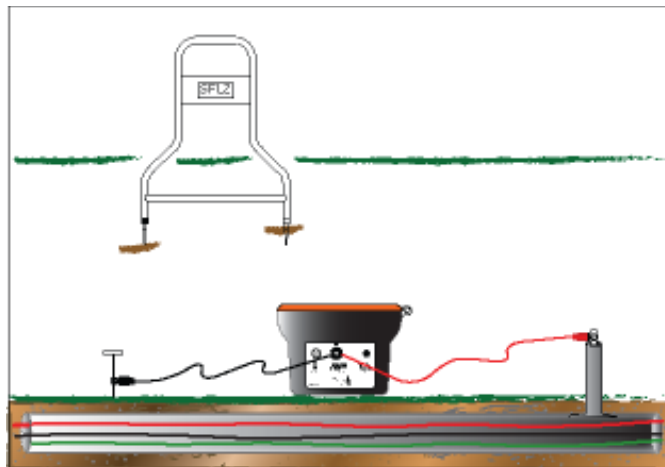

Figure 3-3: Positioning of A-Frame Receiver for Synchronization
1. Hold the A-Frame Receiver so the spike with the **Black** band is about two (2) steps away from the ground rod and the spike with the white band is in-line with the targeted cable. The A-frame receiver **must be placed** as shown in **Figure 3-3** for synchronization and for unit to operate correctly. Push the A-Frame spikes firmly into the ground. Turn the A-Frame **ON**. Wait until the arrow flashes.